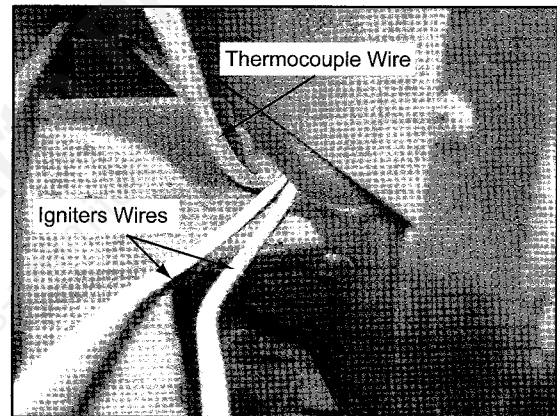

Figure 3
6. The female spade connectors attached to the igniter will slide through the opening in the cast firebox in the back of the appliance. **Figure 3.**